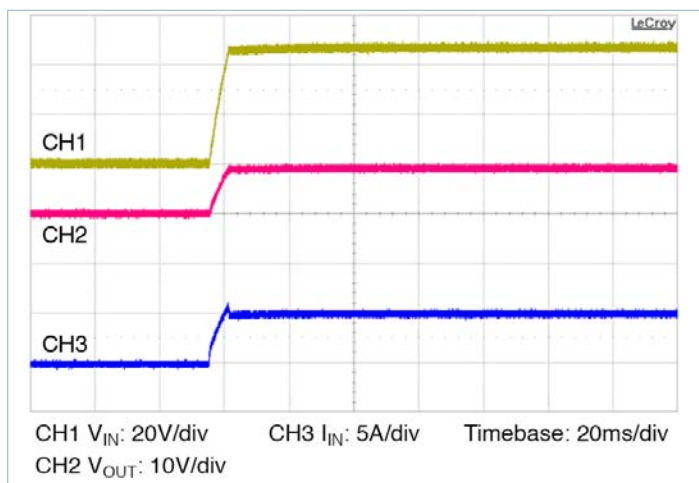

Figure 13 — Start up from application of V_{IN} ; VC pre-applied $C_{OUT} = 1600\mu\text{F}$
- **Normal operation (VC applied prior to V_{IN}):** In this case the controller is active prior to ramping the input. When the input voltage is applied, the VTM module output voltage will track the input (See Figure 13). The inrush current is determined by the input voltage rate of rise and output capacitance. If the VC voltage is removed prior to the input reaching 26V, the VTM may shut down.